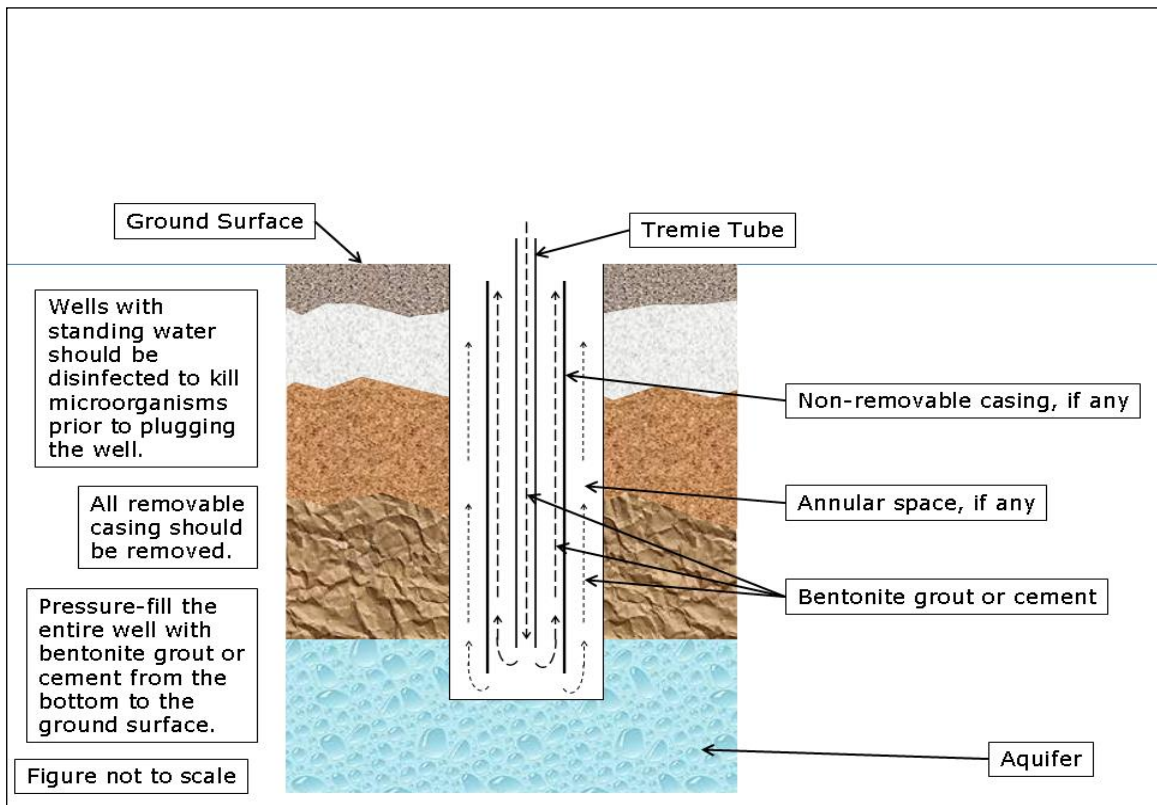

Figure 3. Plugging a Well with Bentonite Grout or Cement Using a Tremie Tube
- If using bentonite grout or cement, completely pressure-fill the well by using a tremie tube (see Figure 3). When the well is pressure-filled with a tremie tube, some plugging material may also enter any annular space that may exist outside of any non-removable casing.
Using a tremie tube, completely pressure-fill the well with bentonite grout or cement from the bottom of the well to the ground surface (see Figure 3). When the well is pressure-filled with a tremie tube, some plugging material may also enter any annular space that may exist outside of any non-removable casing.
- If you use bentonite grout or cement, completely pressure-fill the well by using a tremie tube (see Figure 3). When the well is pressure-filled with a tremie tube, some plugging material may also enter any annular space that may exist outside of any non-removable casing.
Using a tremie tube, completely pressure-fill the well with bentonite grout or cement from the bottom of the well to the ground surface (see Figure 3).